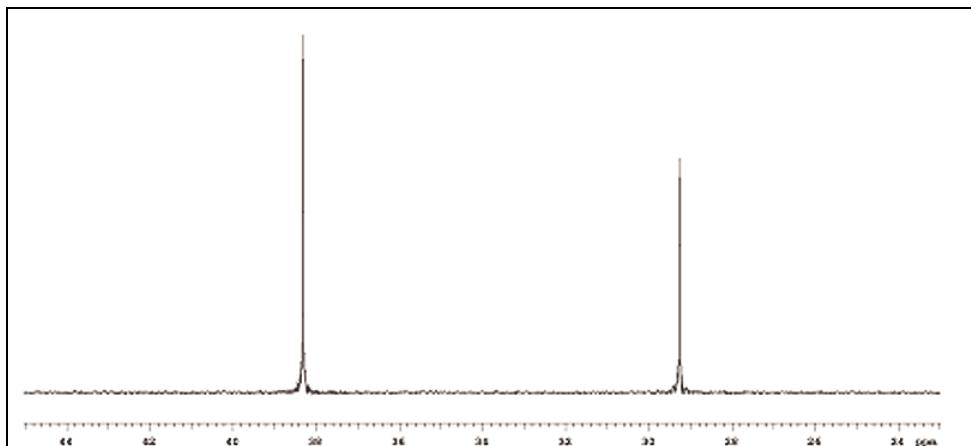

Figure 74 Adamantane Reference Spectrum
12. Acquire a spectrum and reference the higher ppm line to 38.3 ppm (see Figure 74).